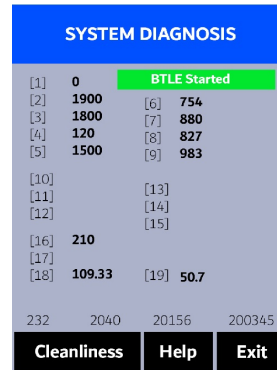

Figure 32.
Press **Diagnosis** (<) to launch the **SYSTEM DIAGNOSIS** screen where raw measurement data are displayed (Figure 32). The information has no use for normal operation, but instead is used for device troubleshooting. Provide an image of both the **DEVICE INFORMATION** screen and the **SYSTEM DIAGNOSIS** screen when you contact Pyxis ([service@pyxis-lab.com](mailto:service@pyxis-lab.com)) for troubleshooting your device or call +1 (866) 203-8397.
4. Allow 5–10 seconds for the message in the top-right corner of the display change from **Starting BTLE...** to **BTLE Started** (Figure 32).